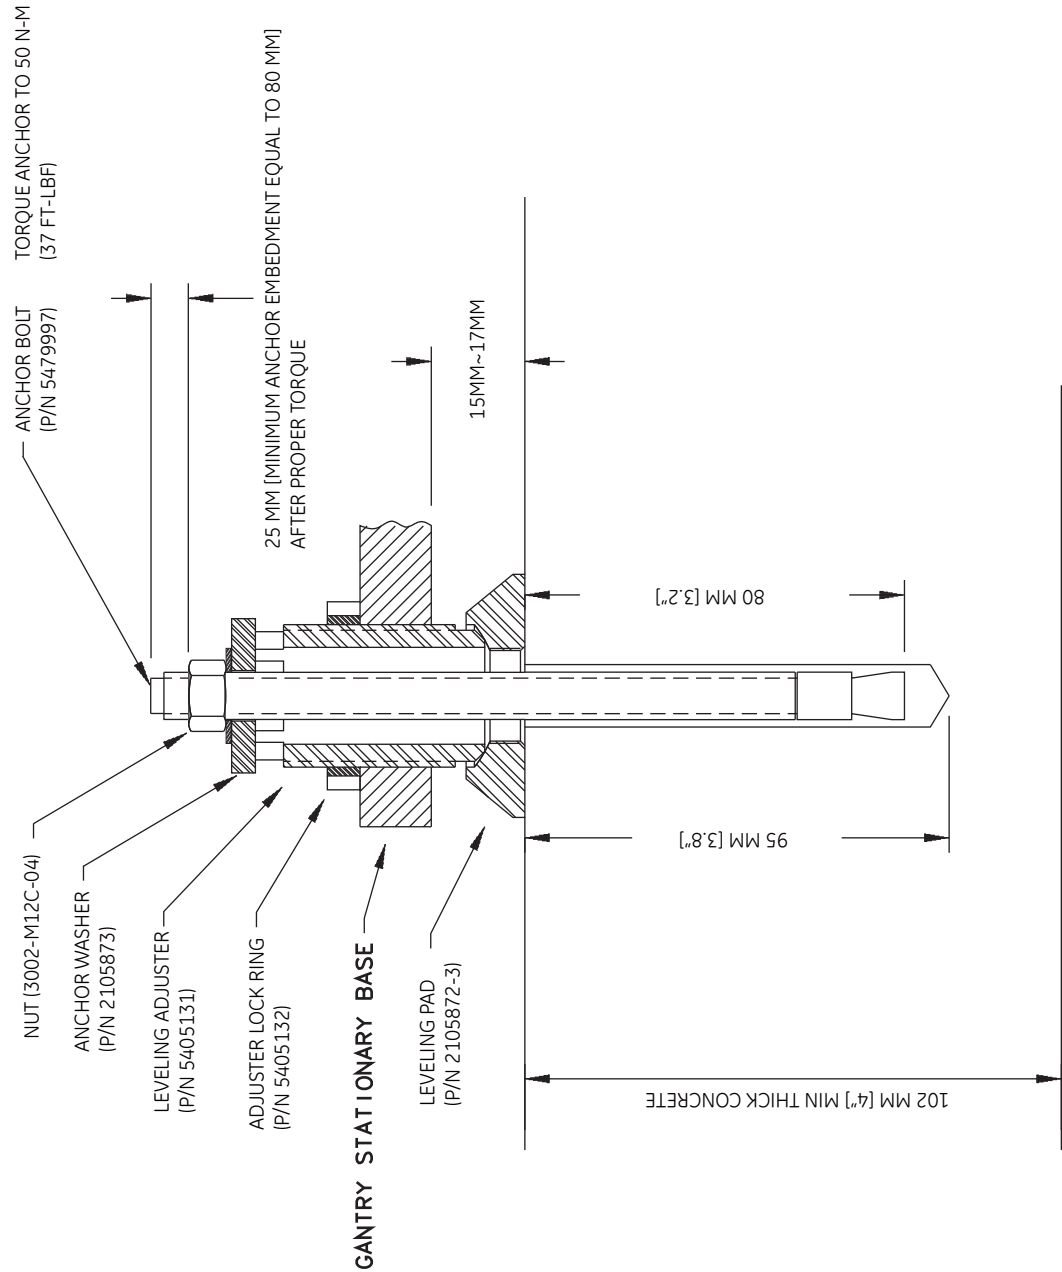
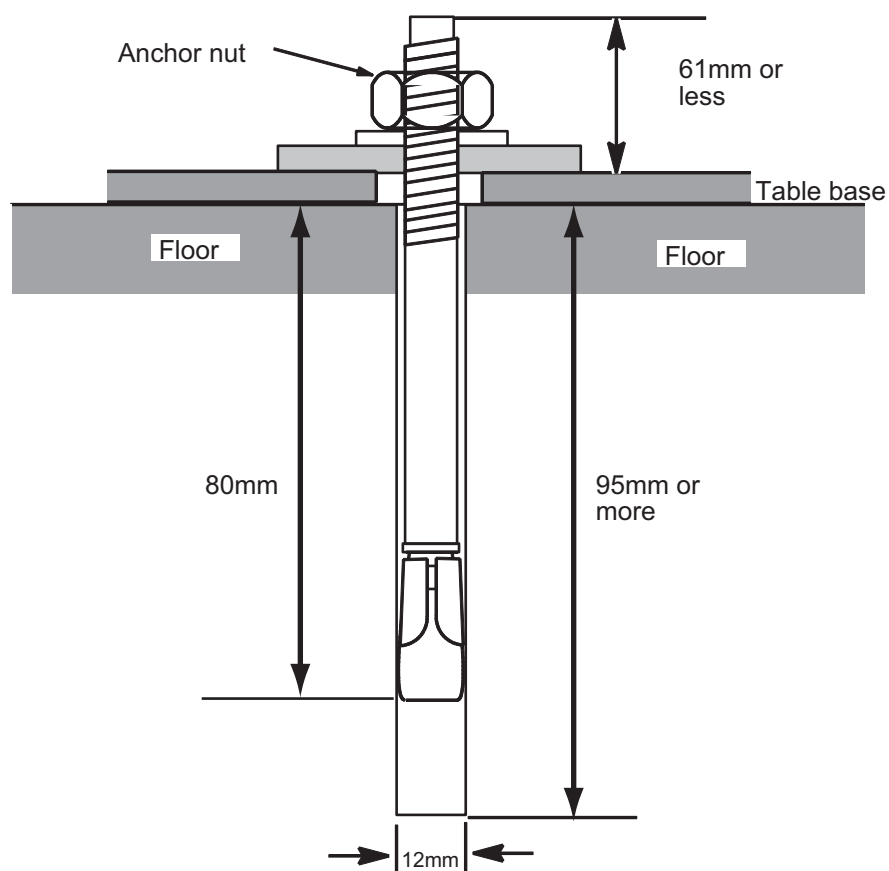

Figure 8-4 Typical Floor Anchor, Gantry
Figure 8-5 Kunlun Table Anchoring
Table 8-3 lists the specifications of GE-supplied anchors for the system. For a detailed view, including dimensions and additional specifications, see Figure 8-4 and Figure 8-5 of this section.
- Any anchors showing more than 21 mm (~0.9 in.) of thread above the torqued nut requires the installation of a second anchor in the closest adjacent mounting location. The second anchor shall meet the same requirements in Figure 8-4.
- Non-seismic installations must use a minimum of four (4) anchors to mount the gantry and four (4) anchors to mount the table.
Note: The table does not have the Adjuster Lock Rings shown in Figure 8-5 of this section.